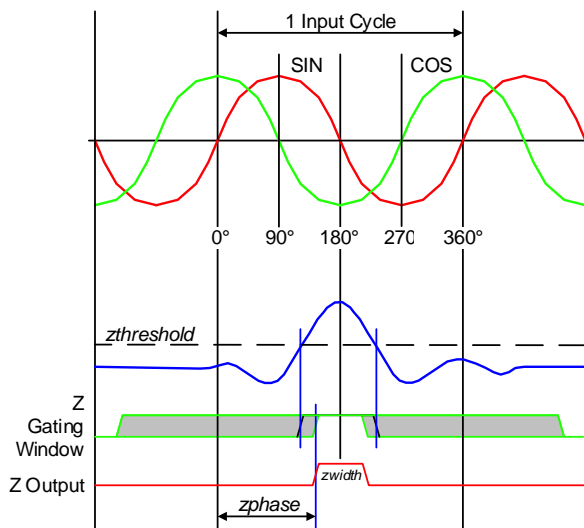

Figure 37: Z Gating Window Requirements
*zthreshold* – along with the form of the ZERO input signal – determines the width of the internal Z gating window (*gatewidth*). To guarantee one and only one Z output pulse per revolution, *gatewidth* must be at least as wide as the desired width of the Z output pulse and no longer than two input cycles minus the width of the Z output pulse under all operating conditions as shown in Figure 37.